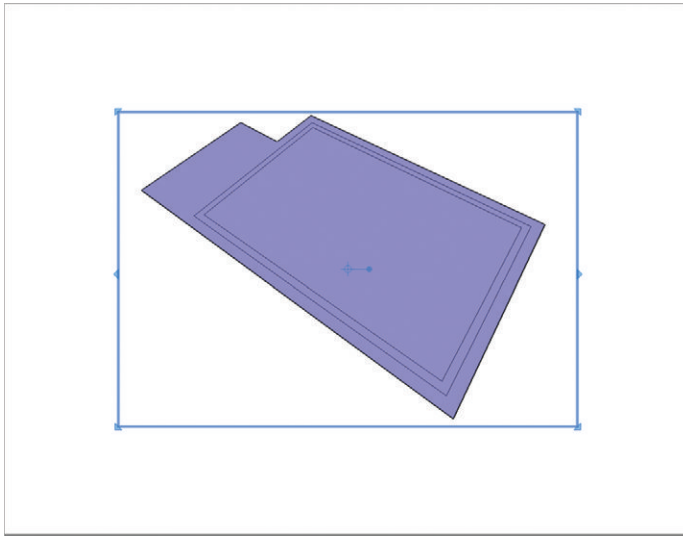

Figure 17.5 The pasted viewport in LayOut
2. Click on the Edit drop-down menu and choose Paste. The SketchUp geometry will be inserted into LayOut as a generic SketchUp model linked to the LayOut presentation, displayed in a viewport (Figure 17.5).